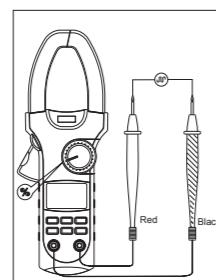

Figure 8
**F. Measuring Duty Cycle (See Figure 8)**